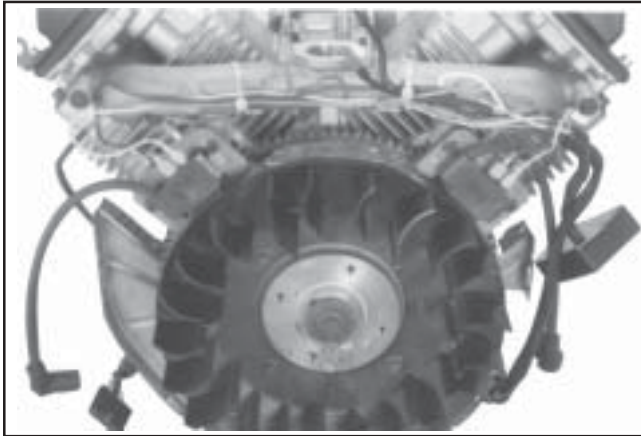

Figure 9-39. Position of Ignition Modules.
2. Rotate the flywheel so the magnet is away from the modules. See Figure 9-39.